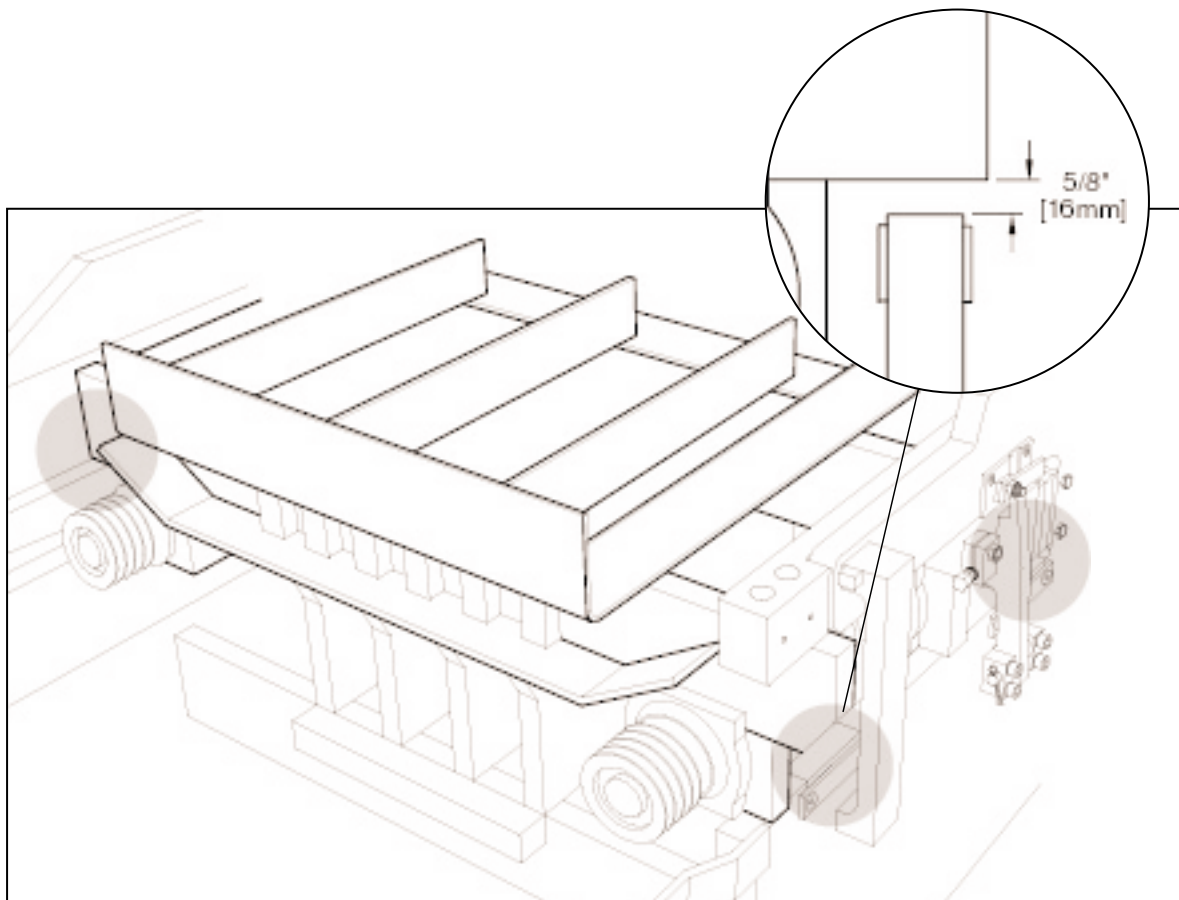

Figure 5.17 SIDE TO SIDE DIMENSION (3 of the 4 check points shown).
- 5.5.3 Check level of mold from side to side and from front to back until bottoms of mold side bars are approximately 5/8" [16mm] above mold throat plates at all four check points (see figure 5.17).
- 5.5.7 Check level of mold from side to side and from front to back until bottoms of mold side bars are 5/8" [16mm] above mold throat plates at all four check points (see figure 5.17).